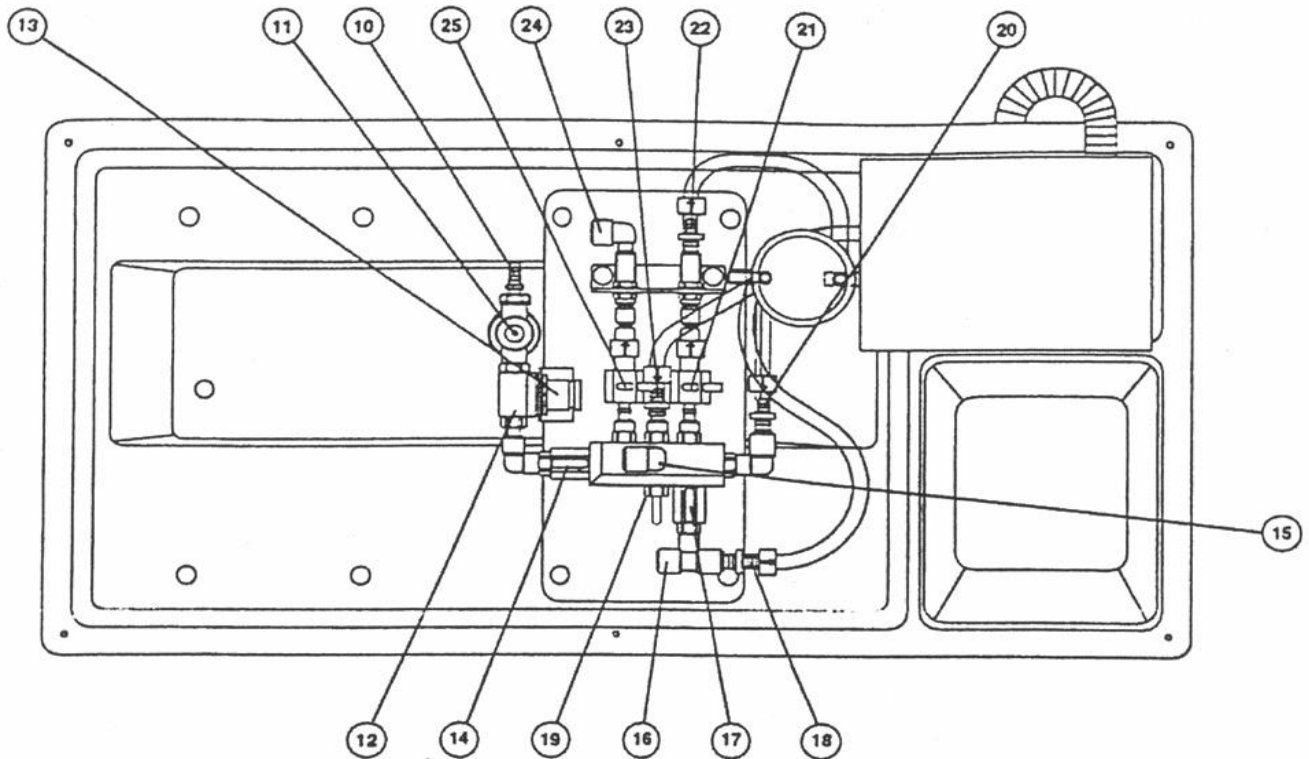

Fig. 2. Top view of Service Unit.
- e) Make sure the cold water valve is closed (14 in Fig. 2). Pull the grey knob (the pressure regulator – 13 in Fig. 2) out and turn all the way counterclockwise. Change the knob for the flow meter reading to F_{cold} . It should read zero. Turn on the cold water from the facet. Now open the cold water valve fully and gradually turn the pressure regulator until water begins to flow. Continue doing so until the flow meter reads 3 liters/min. Then push in the grey knob.
- e) Set flow indicator to F_{cold} and adjust cold water control valve (14 in Fig. 2) to give 1 liter/min.
- f) Set flow indicator to F_{hot} and adjust hot water control valve (17 in Fig. 2) to give 2 liter/min.